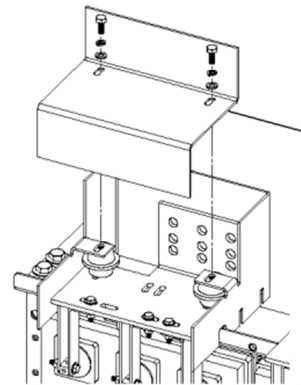

FIGURE 12
1. Install terminal plate covers as shown in Figure 12 and 12a. Use hardware that is identified on the Assembly drawing located in the terminal plate box included with your shipment.